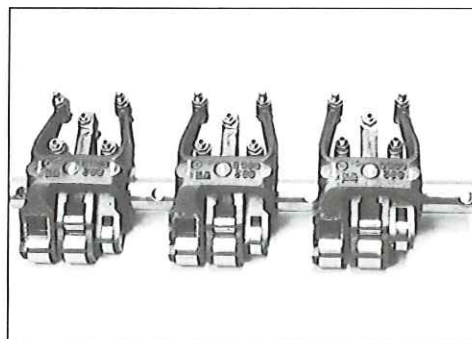

FIG. 62
7. Replace the injector rocker arm assembly that has the damaged roller with a new part. Reassemble the parts in the same order as they were removed (see Fig. 62).